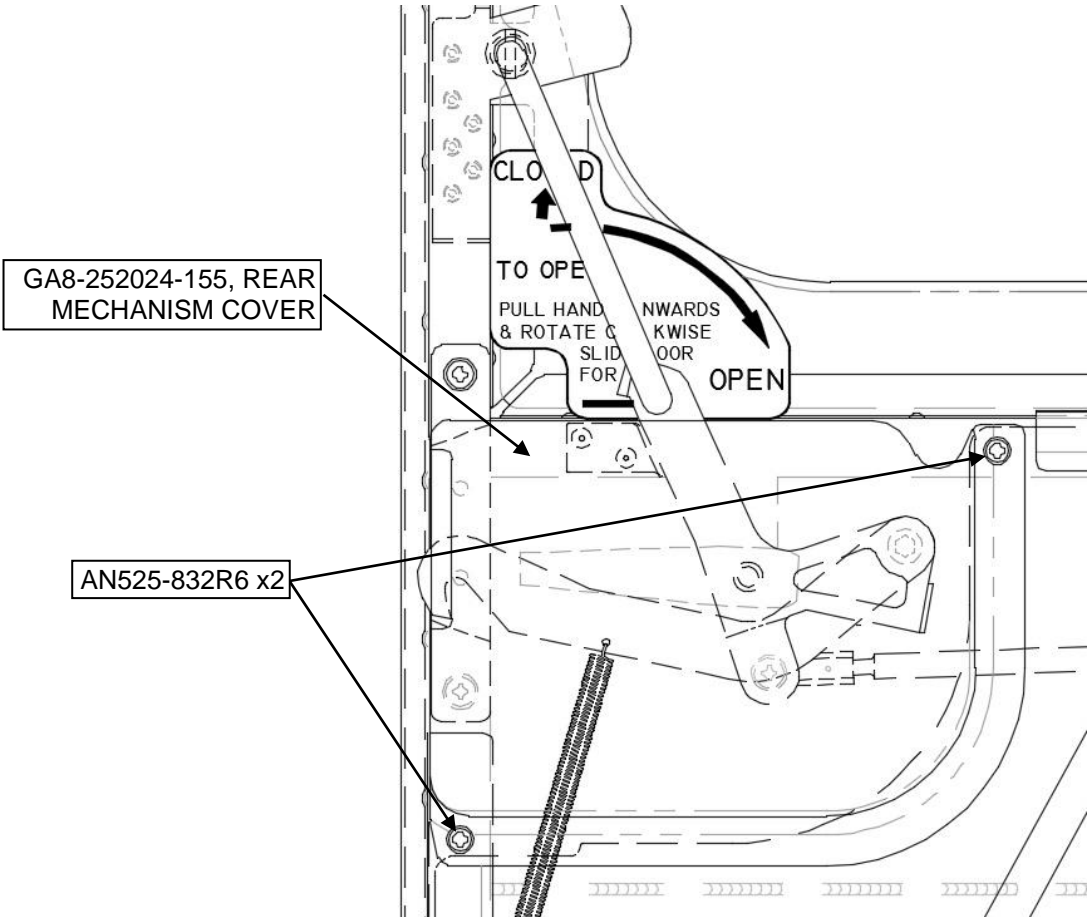

Figure 7: Rear Mechanism Cover
1. Remove Rear Mechanism Cover, refer to Figure 7.
6. Reinstall the Rear Mechanism Cover, refer to Figure 7.
4. Reinstall the Rear Mechanism Cover, refer to Figure 7.